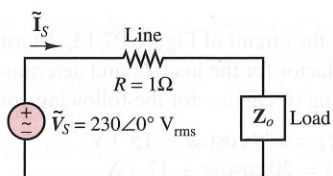

Figure P7.17
7.17 A load impedance, $Z_o = 10 + j3 \Omega$, is connected to a source with line resistance equal to 1Ω , as shown in Figure P7.17. Calculate the following values: